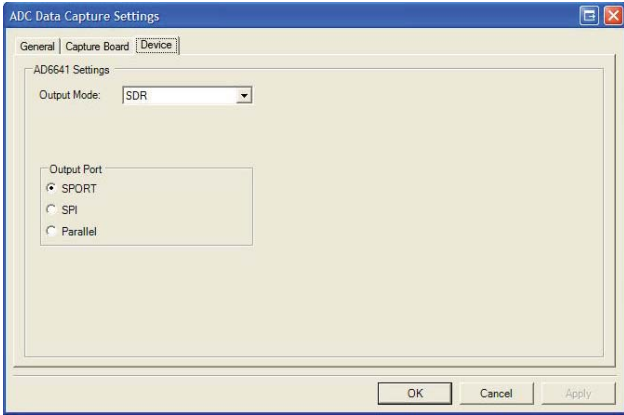

Figure 10. Device Settings Tab
5. On the **Device** tab of the **ADC Data Capture Settings** box, set **Output Mode** to **SDR** and, in the **Output Port** box select **SPORT** (see Figure 10).